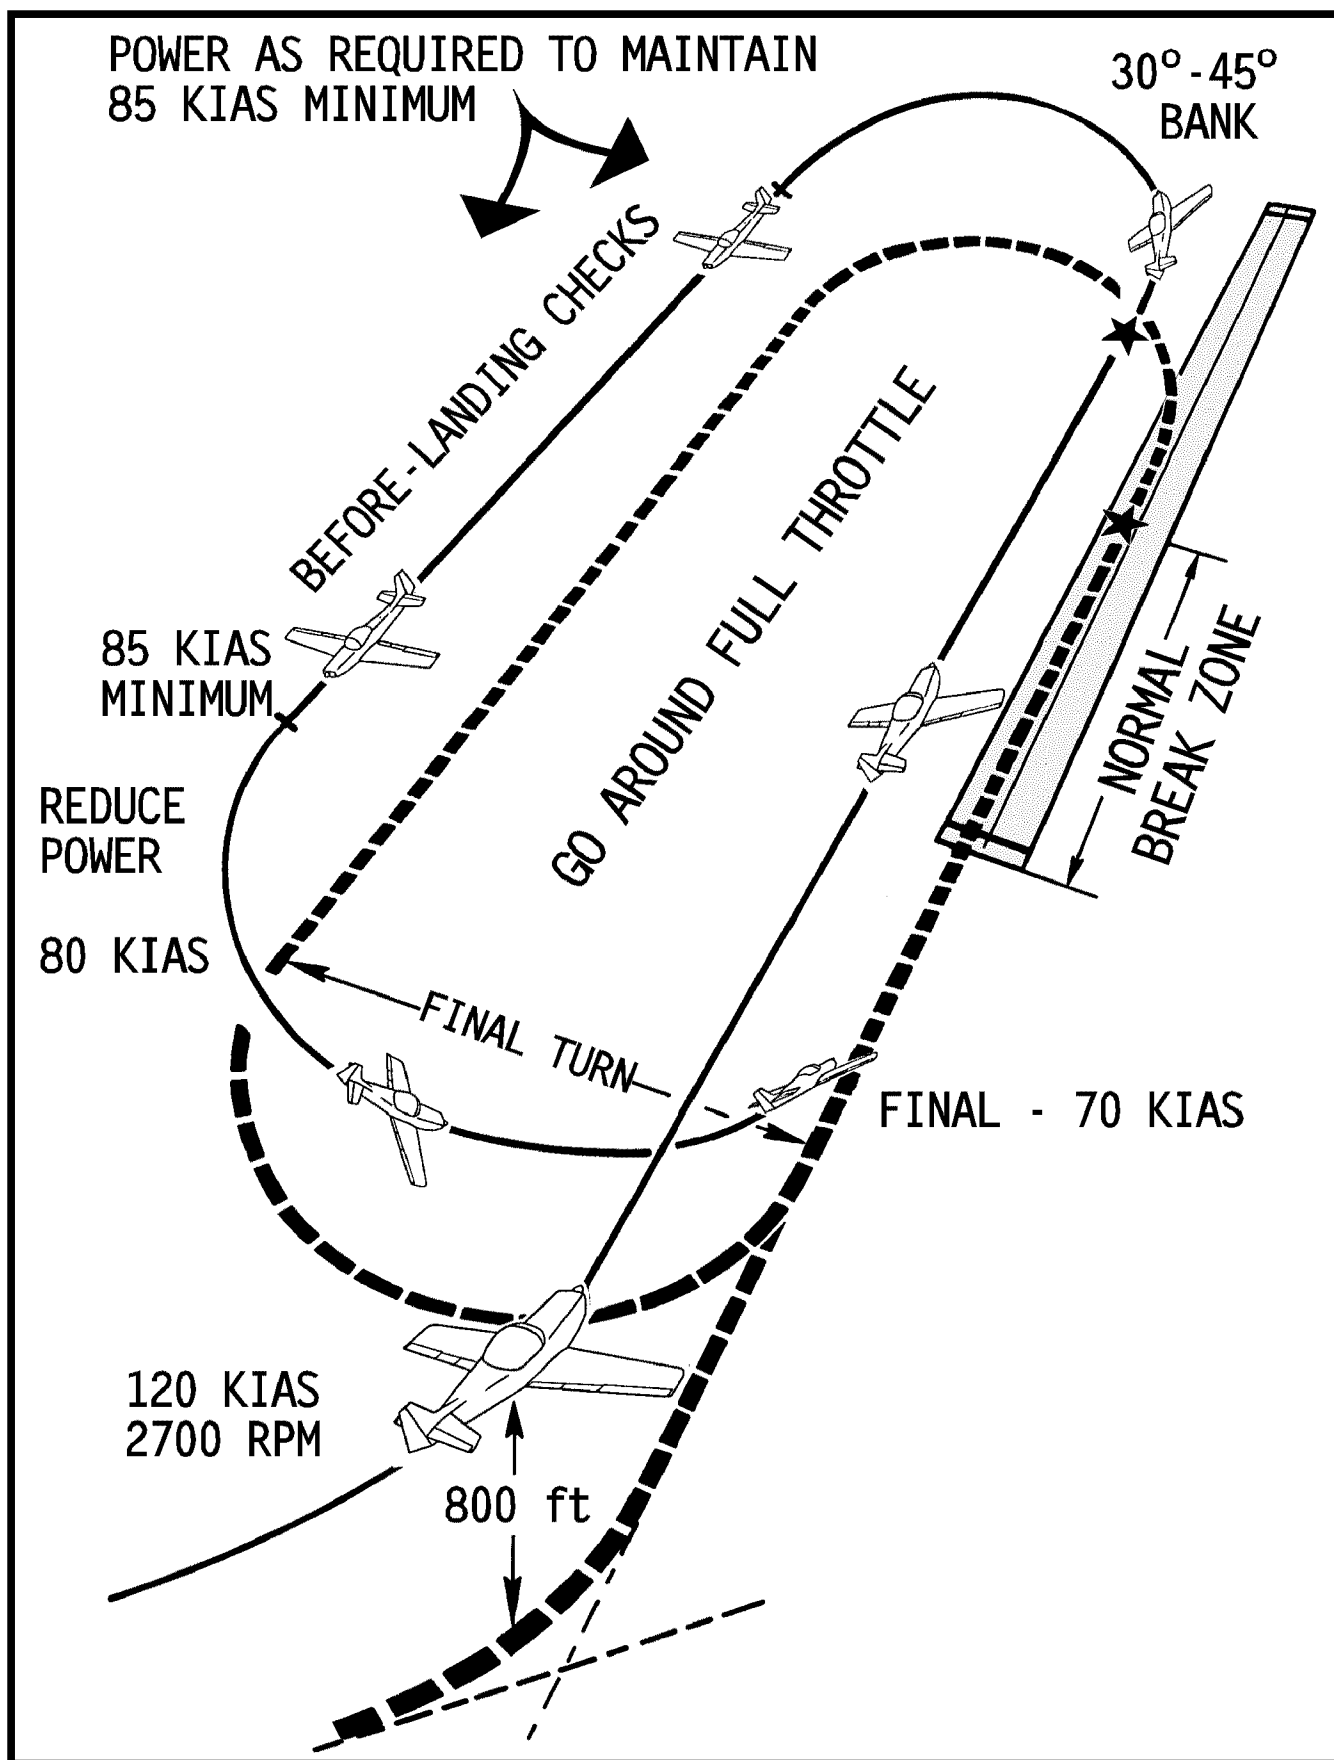

Figure 6.1. Normal Traffic Pattern.
**6.3. Standard Overhead Pattern.** The 360° standard overhead pattern is used to safely and properly handle a maximum number of aircraft with minimum congestion (figure 6.1). You will adjust the pattern for existing wind conditions.